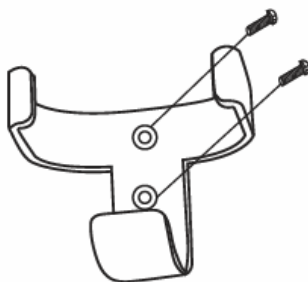

Fig. 11a
- Locate a suitable wall to fix the remote control holder with the 2 screws. (Fig. 11a).